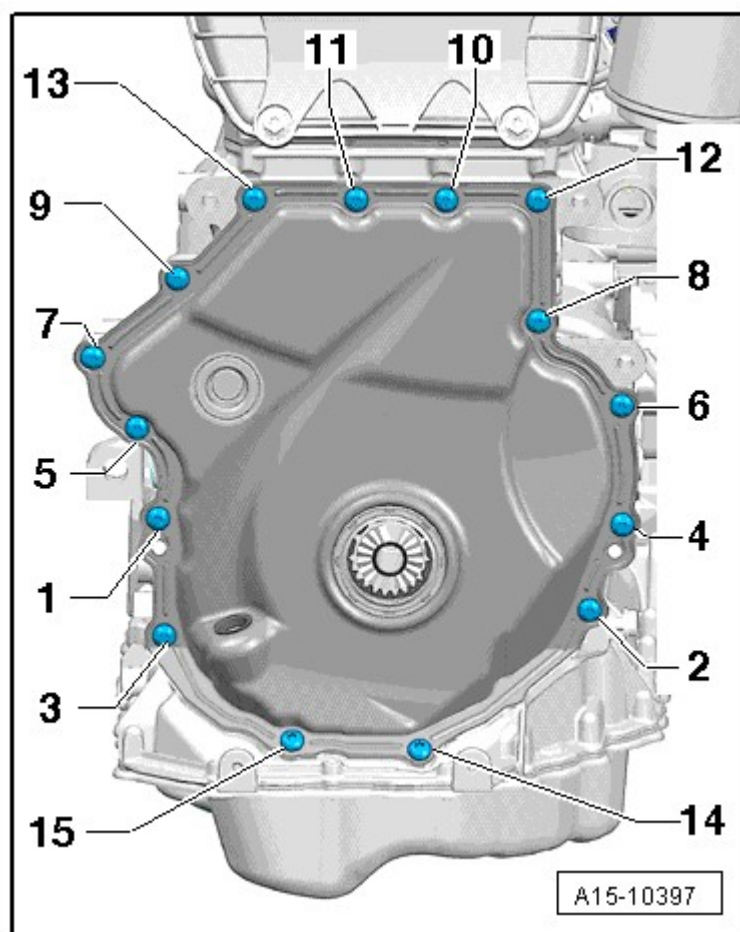

Fig. 5: Identifying Timing Chain Lower Cover Tightening Sequence
- Tightening sequence with 15 bolts, refer to **Fig. 5**